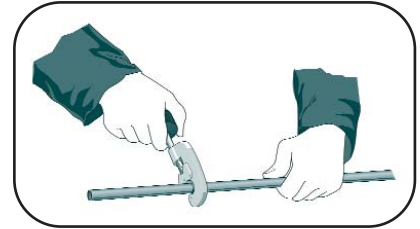

Figure 1
1. Cut the tube square using a rotary tube cutter whenever possible. (Figure 1)